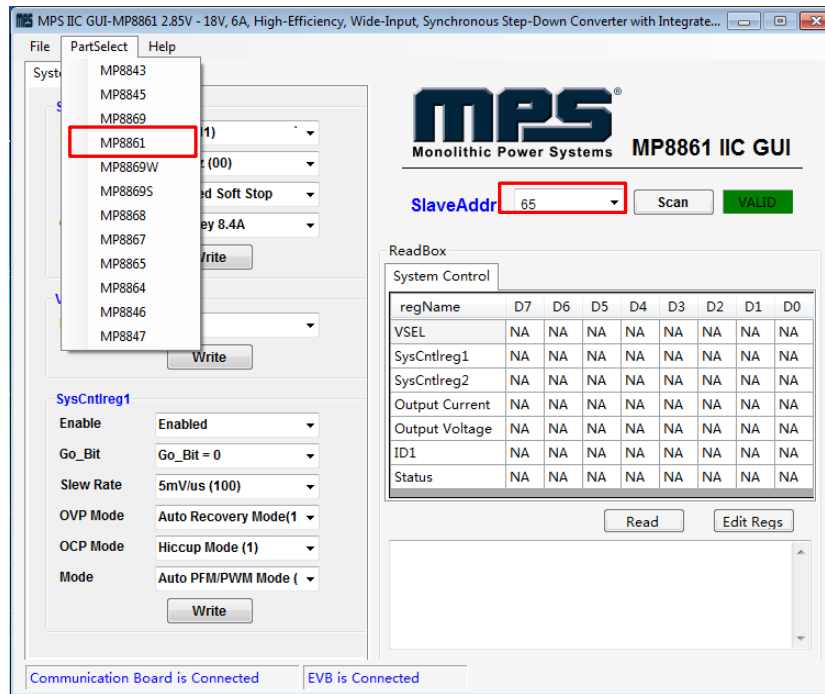
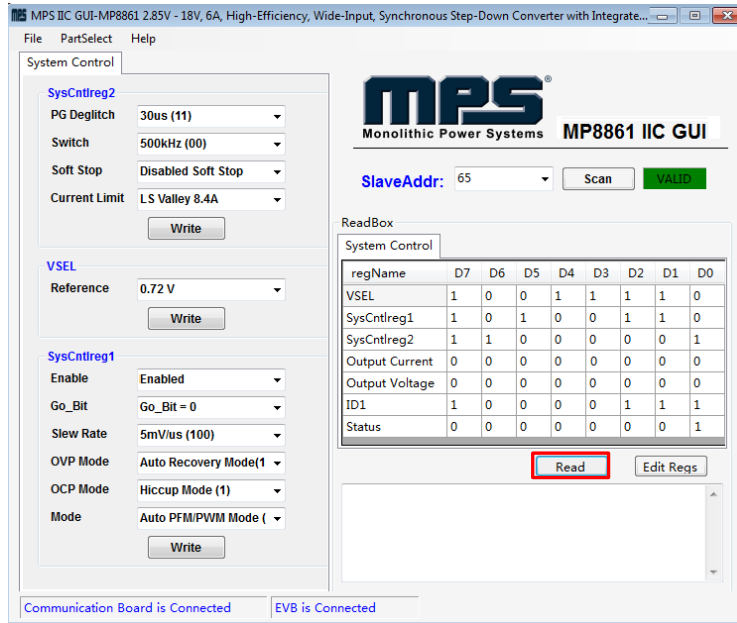

Figure 7: Appearance of Address Shows Successful Connection
Figure 9: Values from I2C Shown in Table
- If the connection is successful, the address will be listed in the “Slave Address” (see Figure 7).
- 2) “Device is not available. Please check the Connection!” This means that the USB I2C communication interface is not connected (see Figure 9).
- Click the **“PartSelect”** button to select the MP8861 (see Figure 7). The Register Control menu will appear on the left side. I2C register values will be read and displayed on the right side after clicking the **“Read”** button (see Figure 9).